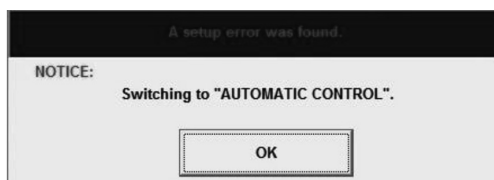

Fig.40
- ① After filling in all the fields for setup and Clicking on "SETUP", if any error is found in settings, an error box as shown in Fig. 40 appears. Click on "OK" button.